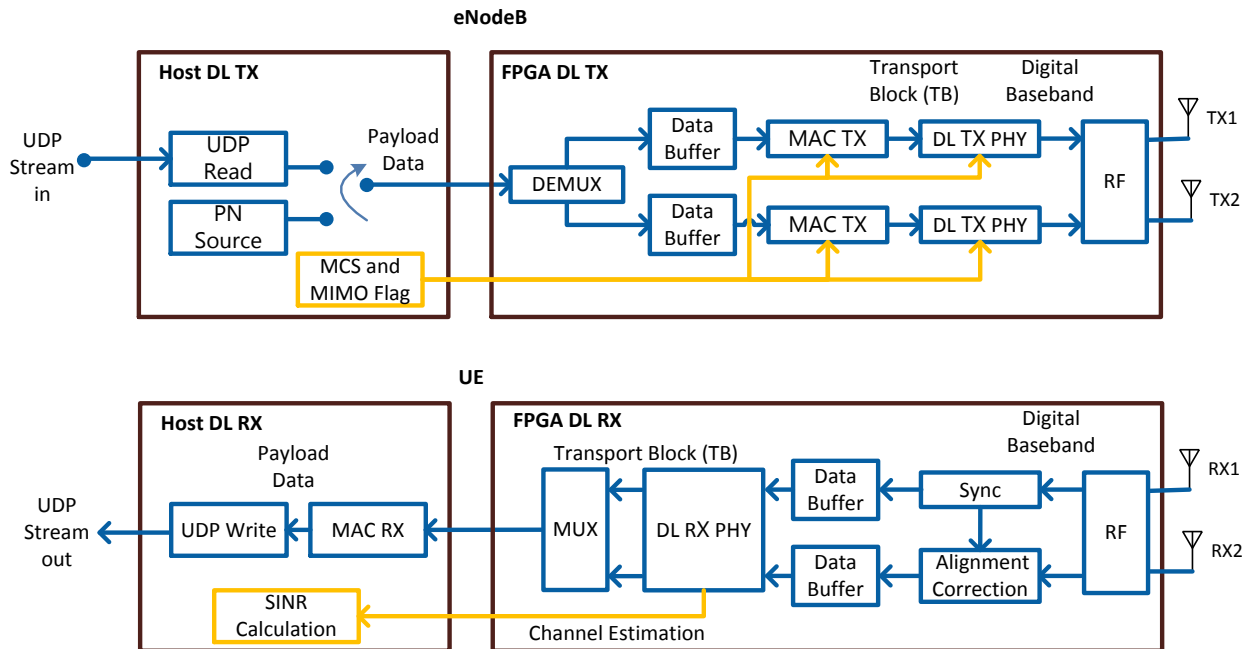

Figure 3: Block diagram of the system
Figure 3 shows the block diagram of the eNodeB and the UE in the downlink (DL).
The components shown in Figure 3 perform the following tasks: